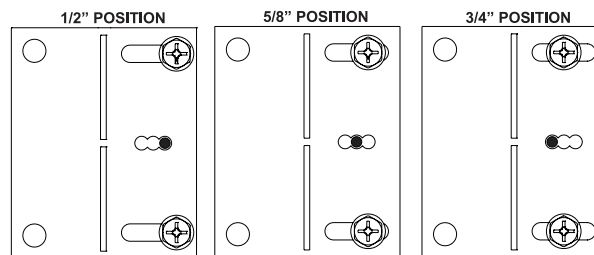

Figure 12
5. Measure from face of fireplace to face of drywall strip to determine final depth and adjust nailing flanges as shown in **Figure 12.**